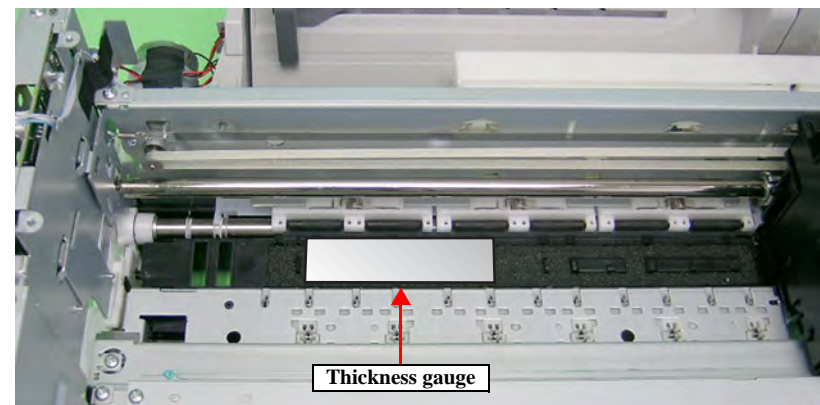

Figure 5-6. Placement position for thickness gauge
16. Set the thickness gauge at position shown by Figure 5-6 again.